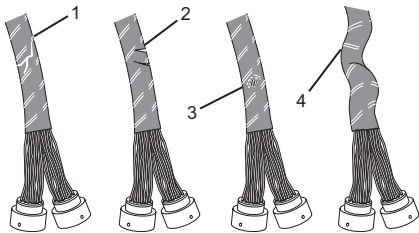

Figure 6
- Cracks (Figure 6, Item 1)
- Cuts (Figure 6, Item 2)
- Abrasion (Figure 6, Item 3)
- Twisting (Figure 6, Item 4)